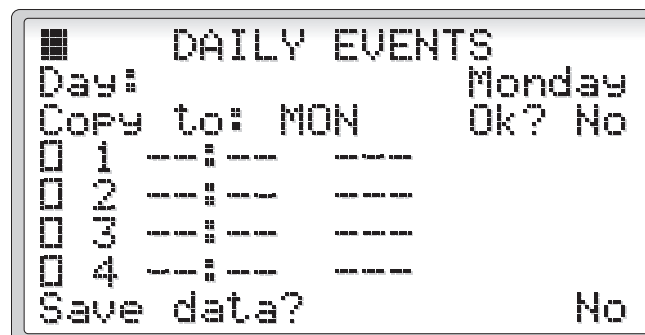

Figure 10
2.3.2.2 Daily Events (Figure 10)